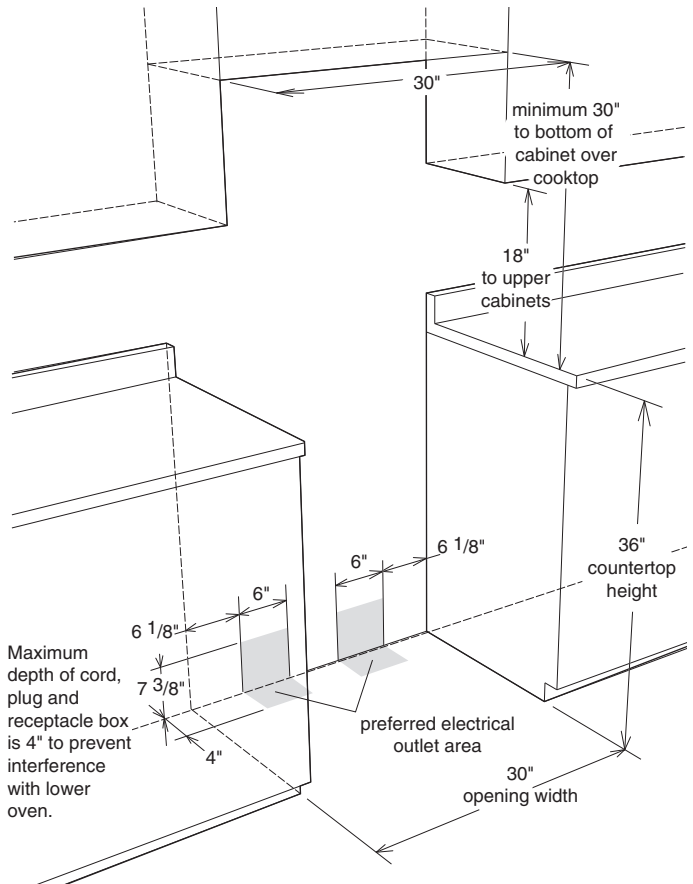

Figure 2
- Dimensions that are shown in Figure 2 must be used. Given dimensions provide minimum clearance. There needs to be a 30-inch minimum clearance between the top of the cooking surface and the bottom of unprotected wood or metal cabinets or a 24-inch minimum when bottom of wood or metal cabinets are protected by not less than a 1/4-inch flame retardant millboard covered with not less than no. 29 msg sheet-steel, 0.015-inch stainless steel, 0.024-inch aluminum or 0.020-inch copper. Note that the gray shaded area on Figure 2 indicates the location for the electrical receptacle/connection.
Before wiring the range, review the suggested power source location drawing in Figure 2. If connecting to a 4-wire electrical system for a new branch-circuit or mobile home use a 4-wire connection.